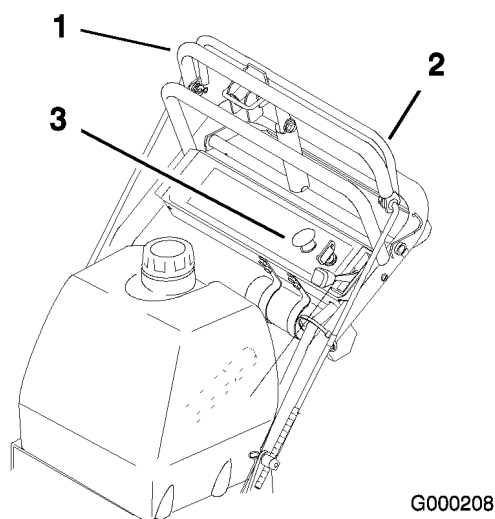

Figure 21
1. Release the upper control bar to stop the machine (Figure 21).
2. To engage blade, squeeze blade control bail against the upper control bar (Figure 21).
Release the blade control bail to disengage the blades (Figure 21).